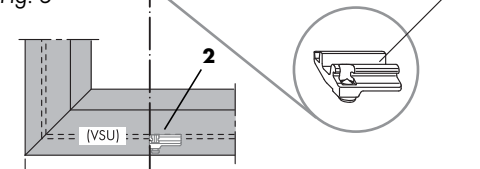

Fig. 6
Position sash lift (1) on bottom locking side as shown (Fig. 6) and fix with grub screws (torque 1.5 ± 0.25 Nm, 2.5 mm AF).